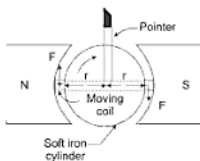

Fig. 4.9
- (ii) If a current I flows downwards in the left hand side conductor and upwards in the right hand side conductor of the moving coil, forces F and F will act on the two sides of the coil as shown in Fig. 4.9.